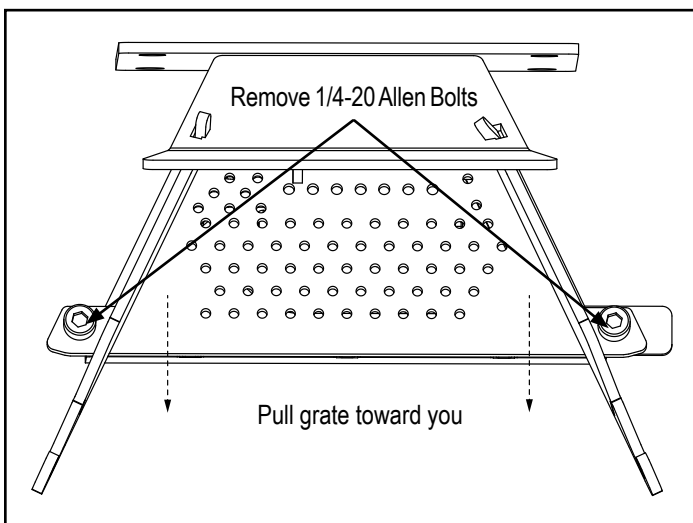

Figure 3
5. Remove the two 1/4-20" allen head bolts on the outer front corners of the burnpot using the 3/16" allen wrench supplied with the hardware pack in the unit, then remove the burnpot grate by pulling forward. Figure 3.